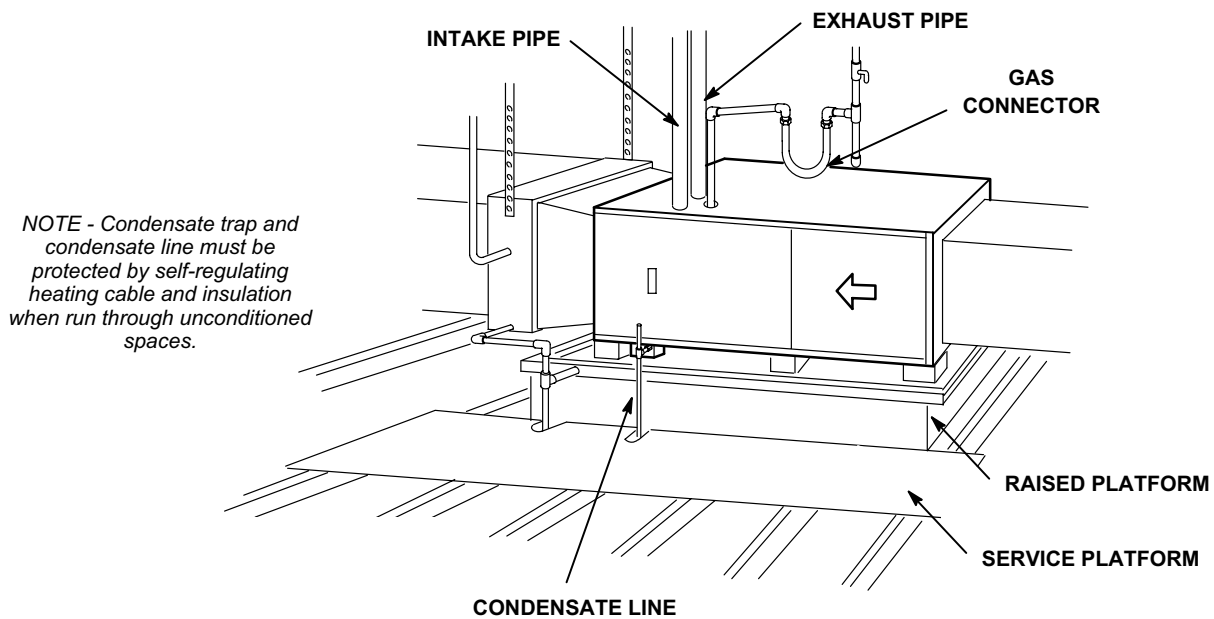

FIGURE 7
This furnace may be installed in either a roof space or under floor. Install the furnace on a field-fabricated raised platform, as shown in figure 7. The unit must be supported at both ends and beneath the blower deck to prevent sagging.
- 4 - Set unit in drain pan (if used) as shown in figure 7. Unit must be level to ensure proper coil drainage. Leave 140mm (5-1/2 inches) for service clearance below unit for condensate trap.